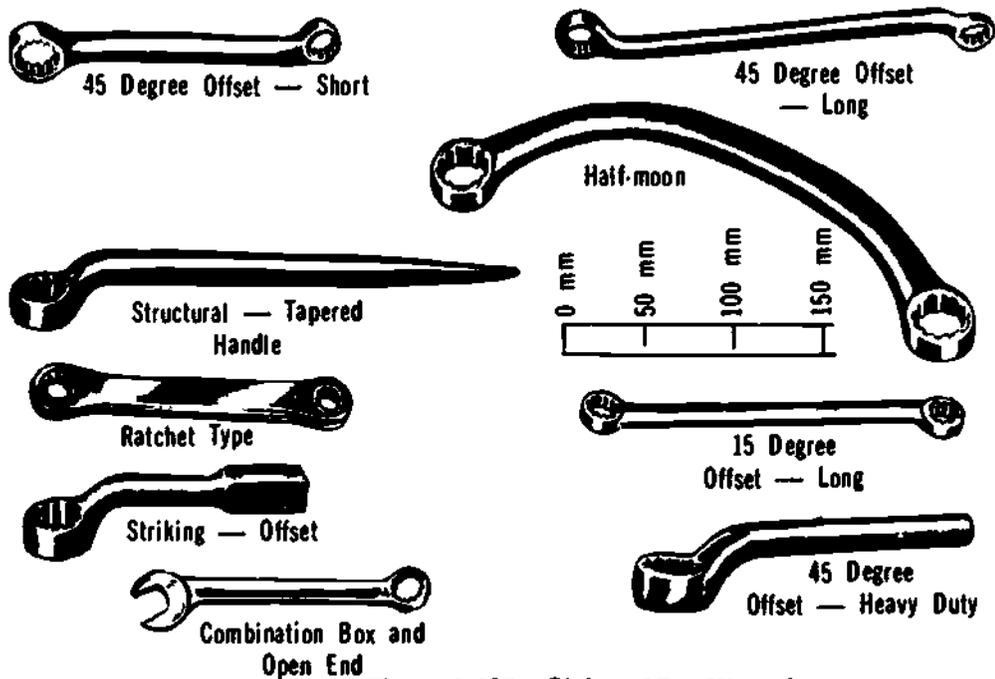

Figure 1-133. Styles of Box Wrenches
a) Box wrenches are so named because they surround, or box, the bolt head or nut. The opening in the box head usually has six or twelve notches (called "points") arranged in a circle. The box wrench is a safer tool than the open-end wrench, since it will not slip off. As little as 1/12 of a turn can be taken at one stroke if necessary in close quarters. A few types are shown in Figure 1-133.